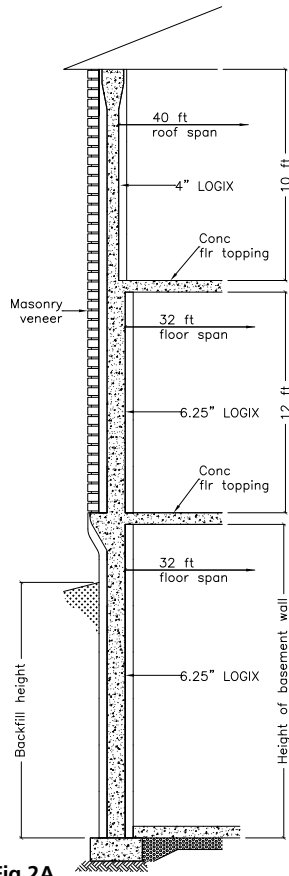

Fig 2A
LOGIX below-grade Tables 2A to 2D shall be used in conjunction with corresponding Figures 2A to 2D, the notes listed below, and the building limitations noted in the "Reinforcement Tables" section, which form the basis of these tables.
2. Table 2A shall be read in conjunction with Fig 2A, and section "Notes for Tables 2A to 2D - LOGIX Below-grade Tables."